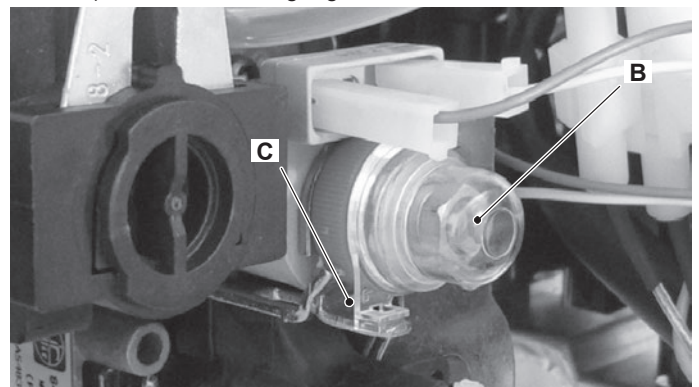

Figure 11.3
- 5 Remove the protection cap B (Figure 11.3) from the mechanical pressure adjustment components levering with a flat